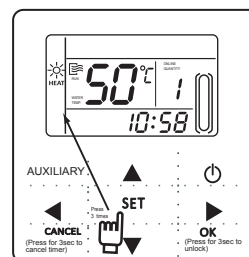

Fig.4-8
Press "SET" key 3 times to enter the working mode setting when the main unit is off power. press the "▲" or "▼" key to adjust, press "OK" key or wait for 7 seconds to be effective, and back to the main page; During setting process to press "Cancel" key then will exit without saving. See fig.4-8